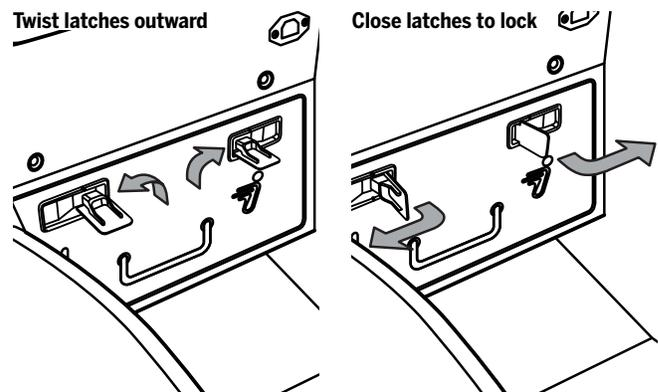

Figure 4: Twist and Close the Battery Module Latches
4. Twist the latches and fold them back (**Figure 4**) to lock the Battery Module.